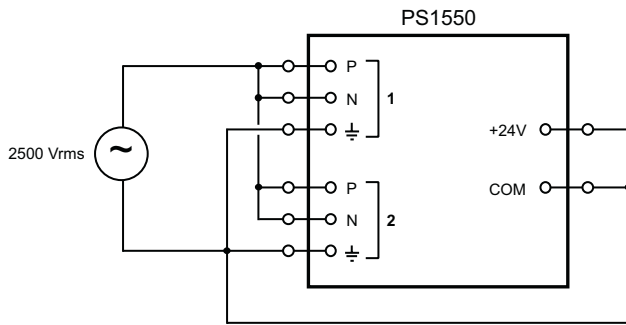

Fig. 11. Isolation Testing Inputs-Ground.
5. Isolation Input-Ground is carried out as per diagram shown in Fig. 11: applied voltage must be sinusoidal at maximum amplitude 2500 Vrms.